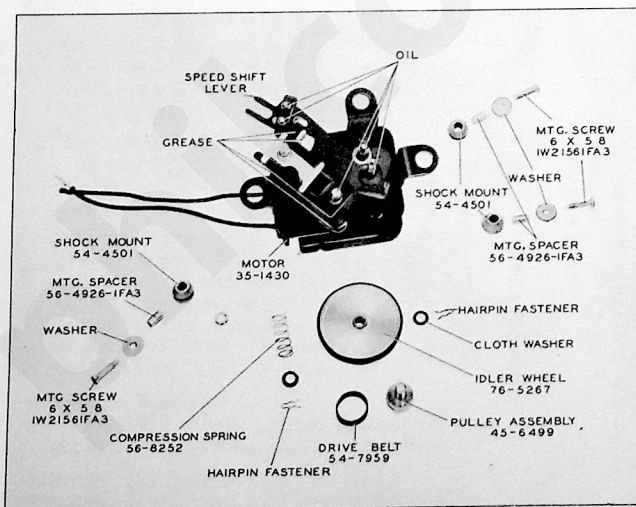

Figure 11. Motor Assembly—Part No. 35-1451
12. Motor Assembly. See figures 11 and 12.